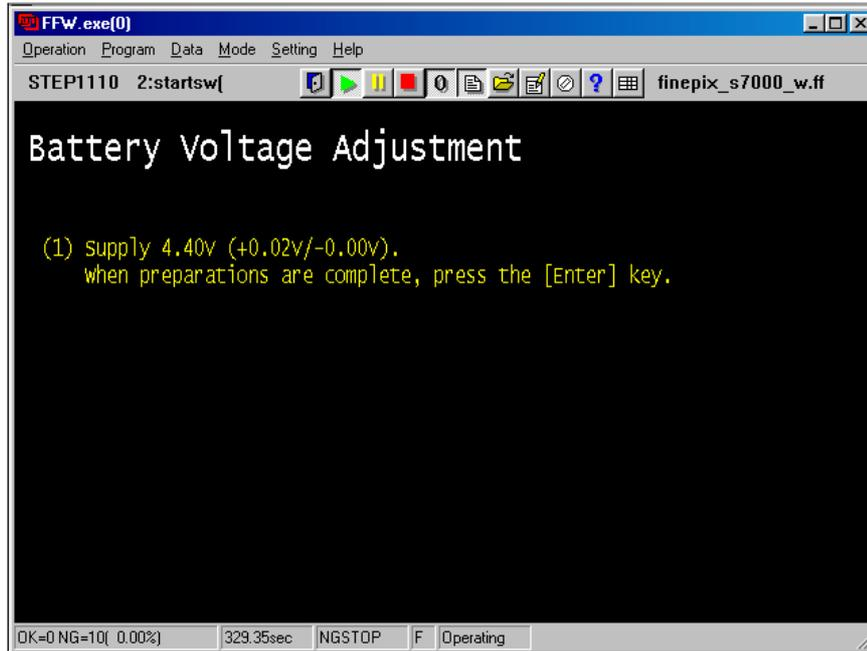

Fig.31
---> The [Battery Voltage Setting Screen 4.40V (Fig.31)] appears.